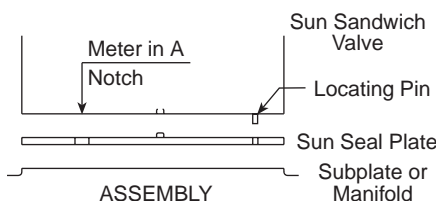

Figure 2: Assembly
bodies are located properly, all ISO 03 sandwich bodies are stamped with an arrow (or arrows) to show the relationship to the notch in the seal plate (see Figure 2). Multi-function bodies are “NOTCH” stamped for all possible mounting positions and all positions should be carefully inspected to be sure the intended function is correctly installed.
2. Position the Sun sandwich body so that the control “NOTCH” arrow for the required function points to the “NOTCH” in the seal plate. See Figure 2.